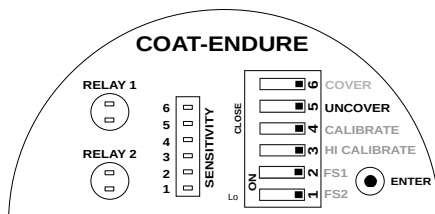

Figure 22: Saving Uncover Delay
4. Uncover Delay is entered, but not saved. To save and test the uncover delay, set the UNCOVER switch back to OPEN position as shown in Figure 22.